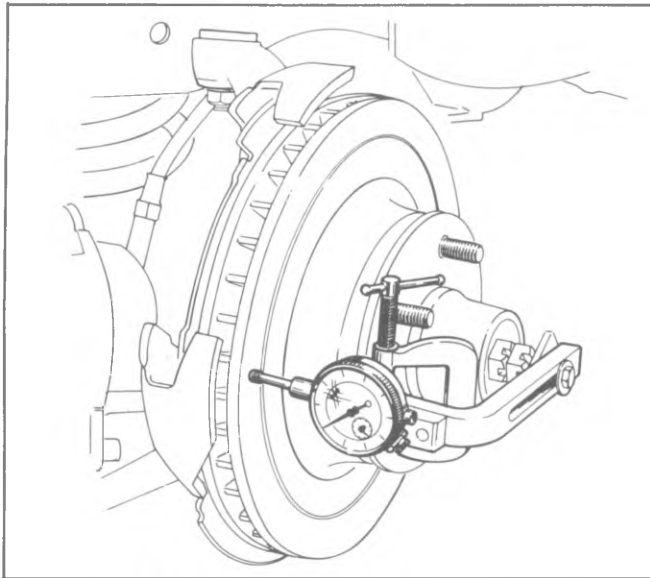

Fig. 5-42--Checking Rotor for Lateral Runout
3. To check lateral runout, first tighten the wheel bearings until all of the play is out of the bearings. Fasten a dial indicator to some portion of the suspension so that the point of the stylus contacts the rotor face approximately one inch from the rotor edge (fig. 5-42). Set the dial at zero. Move the rotor one complete rotation, checking the indicator as the rotor moves.